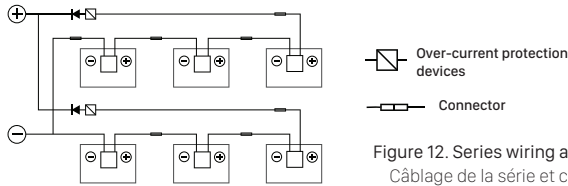

Figure 12. Series wiring and Parallel wiring/
- The cable must not be bent or crushed on the direct exit of the cable screw joint include connecter and box. A minimum bending radius $R \geq (5 \times \text{cable diameter})$ must be maintained. The cable must be routed in a way that tensile stress on the conductor or connections is prevented. Please refer to the following picture (figure 12):
- If the modules are used in high-temperature and high-humidity environment, IREX requires the customer to ground the negative end of the inverter (as shown in Fig.12). Offset Box or PID Box can also be used instead to apply a positive voltage to the module arrays at night to avoid PID